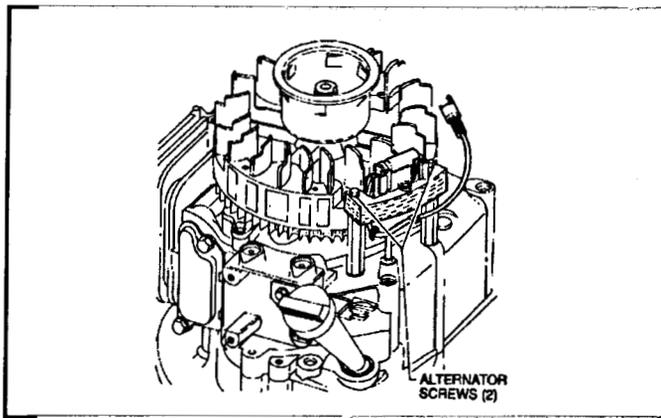

Figure 97
2. Install the alternator on its mounting posts. See Figure 97.